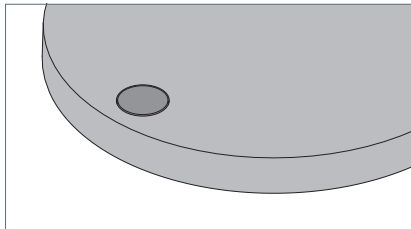

Fig. 3: Button.
- ▶ Briefly press the button, see Fig. 3.
- ▶ Press the button and keep it depressed, see Fig. 3.
- ▶ Press the button and keep it pressed for ten seconds, until the luminaire starts flashing at regular intervals, see Fig. 3. The luminaire is in the programming mode. The flashing indicates the number of hours after which the luminaire is switched off or whether the automatic cut-out is deactivated.